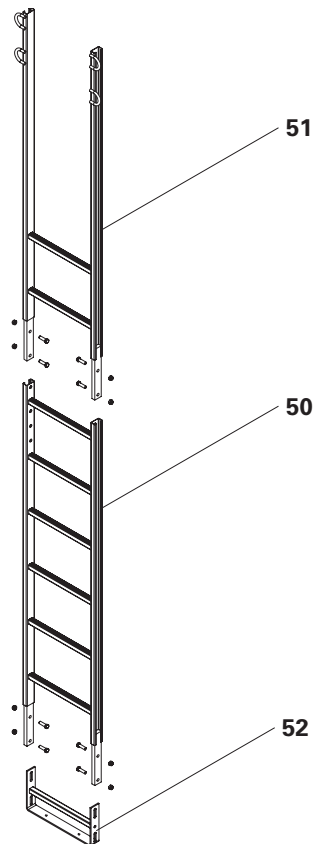

Fig. B6.03
3. Fix Ladder Base (**52**) to Ladder 180/6 (**50**) using bolts M12x40 AF 19. (Fig. B6.03)
1. To fit the ladder horizontally, screw the drawn-out bracket of the ladder base to the planking tightly with 3x Torx TSS 6x40. (Fig. B6.03)